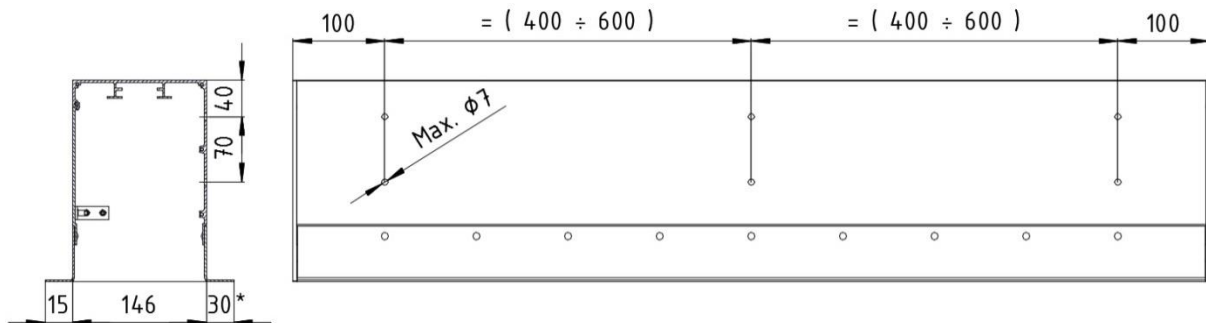

Fig. 14. Scheme of preparation of the installation holes in the under-plaster cassette. * - variable dimension, usually 30 mm.
- Under-plaster cassette is delivered without installation holes. They have to be done individually according to the below guidelines (Fig. 14). At least 3 openings are required for each 1m of length of the cassette.
2. Drill installation holes in the cassette in marked places acc. Fig. 14.